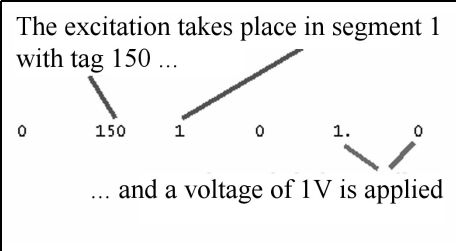

Fig 7: The excitation takes place in the middle of the wire.
- From to Fig 7 the supply (Excitation) of the structure is programmed in the centre section of the connecting wire.